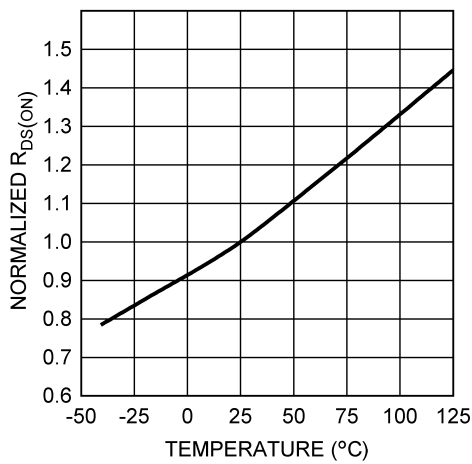

图 6-4. Normalized $R_{DS(ON)}$ vs Temperature
- (1) *Absolute Maximum Ratings* indicate limits beyond which damage to the device may occur, including inoperability and degradation of device reliability and/or performance. Functional operation of the device and/or non-degradation at the Absolute Maximum Ratings or other conditions beyond those indicated in the Figure 6.4 is not implied. The Recommended Operating Conditions indicate conditions at which the device is functional and should not be operated beyond such conditions.
- (2) If Military/Aerospace specified devices are required, please contact the Texas Instruments Sales Office/ Distributors for availability and specifications.
- (3) The absolute-maximum specification of the ‘SW to GND’ applies to dc voltage. An extended negative voltage limit of - 10 V applies to a pulse of up to 50 ns.
- (4) For soldering specifications, refer to the application report *Absolute Maximum Ratings for Soldering* (SNOA549).